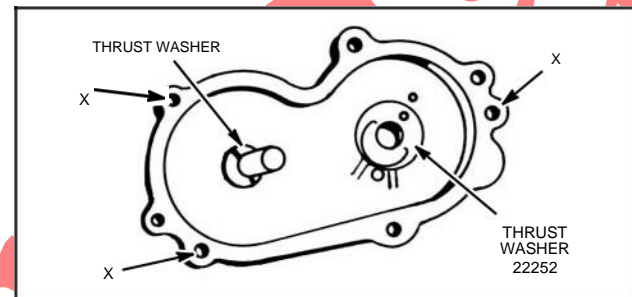

Fig. 118
intermediate gear shaft. Locate it with dowel pin. Use a little grease to hold it in place, Fig. 118.
2. If intermediate gear has too much end play and drive shaft end play is correct, remove gear case cover and place steel shim, Part #22872 (NLA), under thrust washer, Part #22078 (NLA). Use a little grease to hold them in place, Fig. 118.
1. Proceed as above but place thrust washer, Part #22252 (NLA), at drive shaft hole, Fig. 118.
6. Fasten cover with three bolts at holes marked "X" in Fig. 118.
gear case cover and place steel shim, Part #22875 (NLA) under thrust washer, Part #22252 (NLA). Use a little grease to hold them in place, Fig. 118.